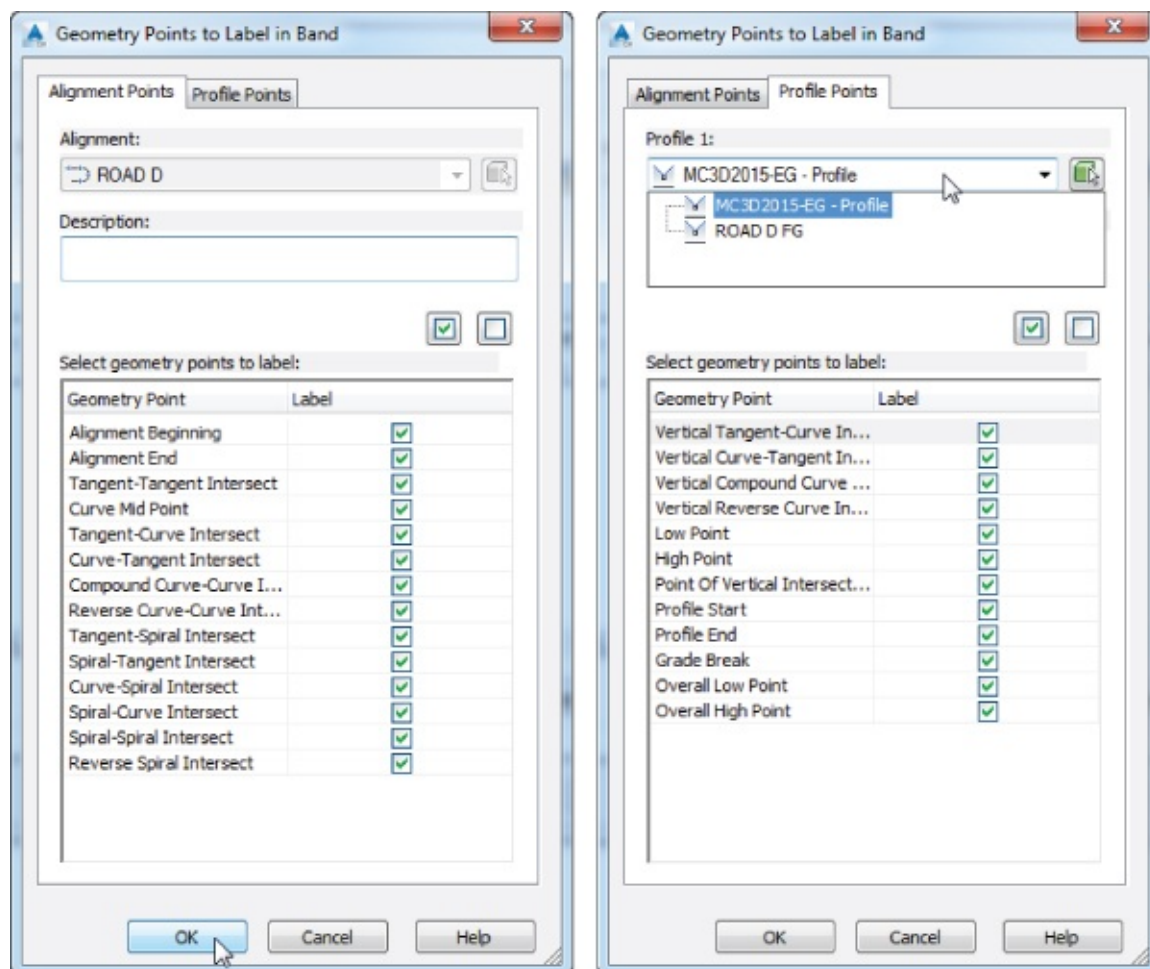

Figure 7.58 The Geometry Points To Label In Band dialog showing the Alignment Points tab (left) and the Profile Points tab (right)
6. Click the Add button. The Geometry Points To Label In Band dialog will open (Figure 7.58).